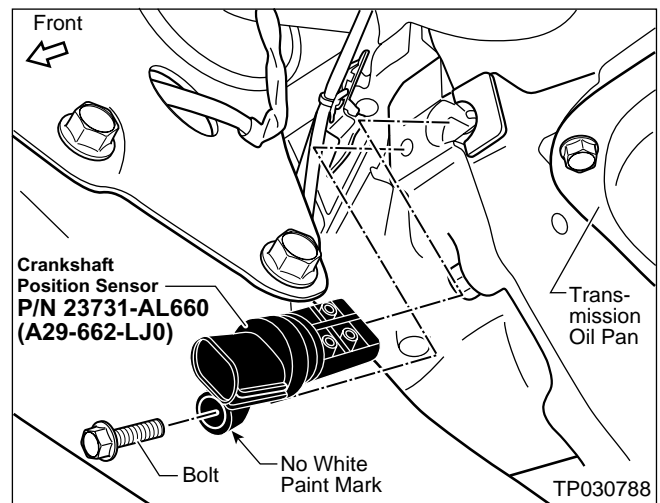

Figure 12
3. Locate the **Crankshaft Position Sensor** (see Figure 12).